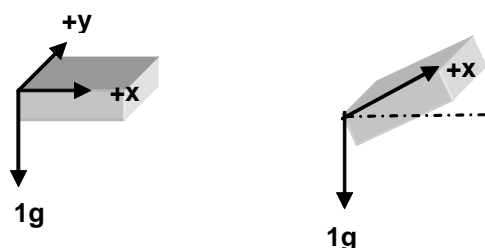

Figure 1. Dual-Axis Accelerometer with One Axis of Tilt
In the case of a dual-axis accelerometer (XY) mounted perpendicular to gravity the tilt algorithm is limited to one axis of sensitivity. As shown in Figure 1 the accelerometer is tilted along the X-axis. The Y-axis remains at 0g output throughout the full rotation of the X-axis in this case.